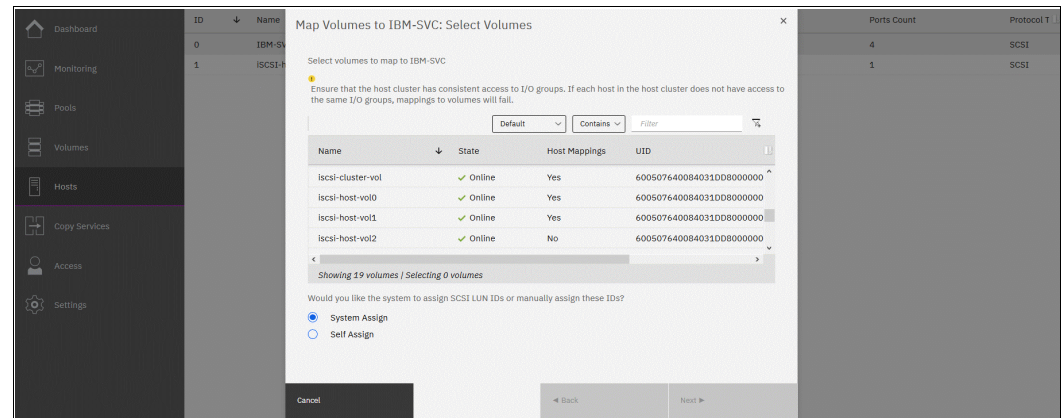

Figure 7-58 Adding shared mappings
4. If new shared mappings must be created, click **Add Volume Mappings** to open the next window, as shown in Figure 7-58. A list shows the volumes that are not yet mapped to the cluster that was selected.